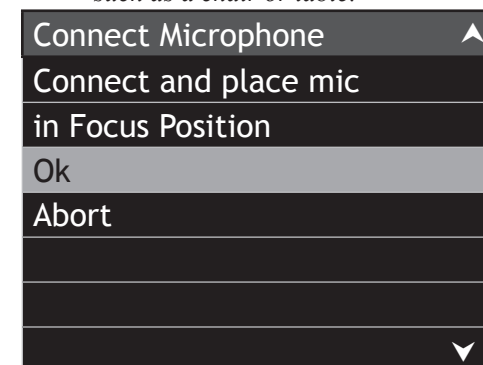

Figure 26
4. At this time place the microphone in the focus location with the front of the microphone pointing towards the loudspeakers (center location between the Left and Right Loudspeakers). The height of the microphone should be at ear level. Refer to figure 26.